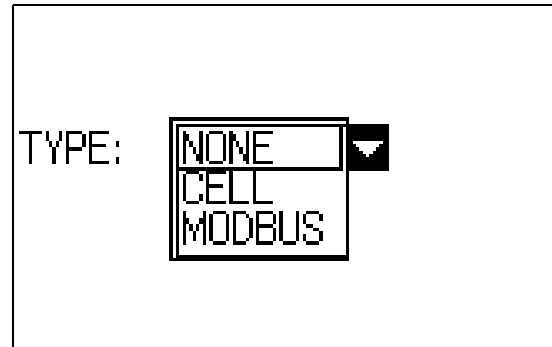

FIG. 13 Network Setup screen
1. On the Configuration screen (see FIG. 6), select NETWORK from the list of setup screens, and press Enter to display the Network Setup screen (see FIG. 13).